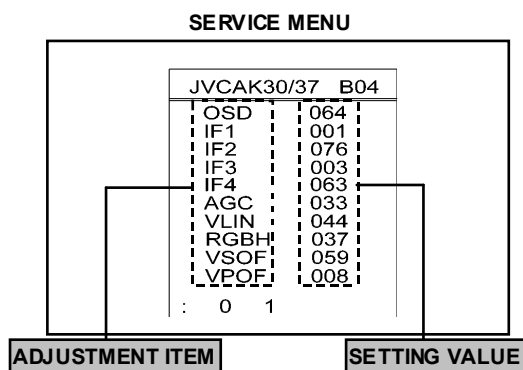

Fig.2
- 4) The SERVICE MENU screen of (Fig.2) will be displayed.